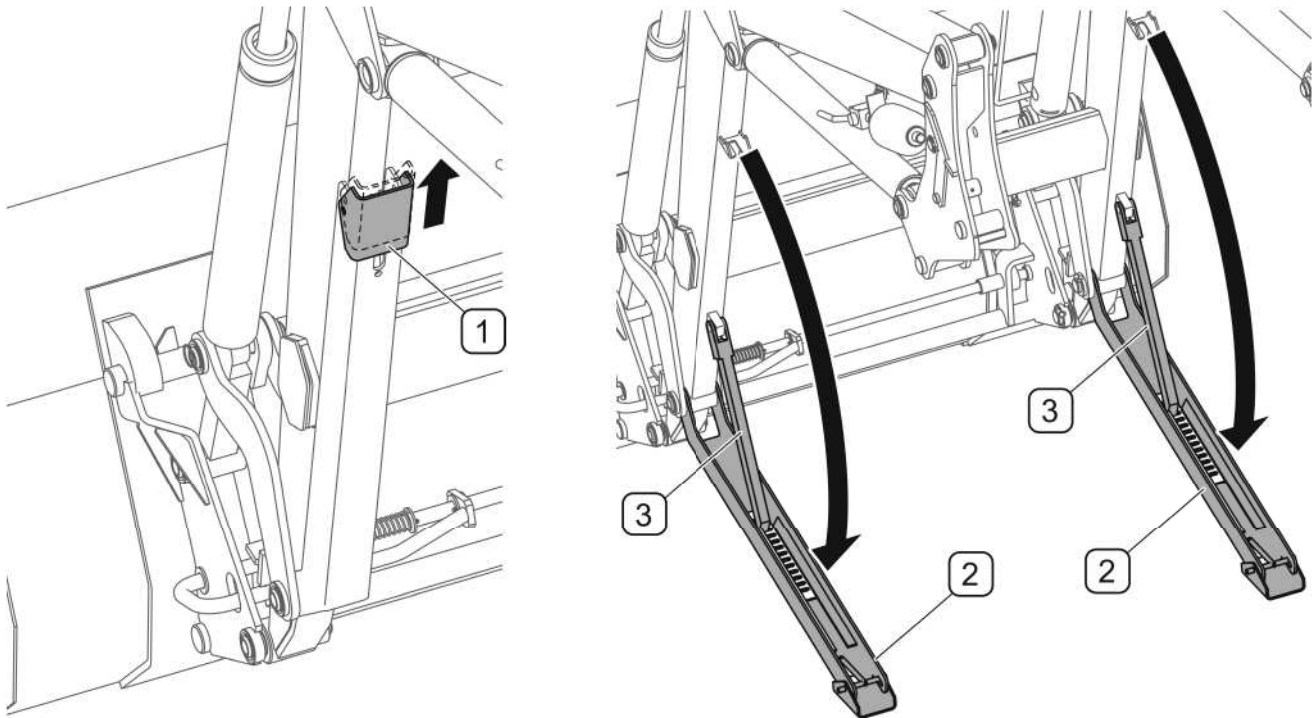

FIG. 4.28A **Parking supports**
(1) - foot blocks; (2) - parking supports; (3) - catches;
- pull out foot blocks (1) (FIG. 4.28A);
- lower parking supports (2) together with catches (3), onto the ground;